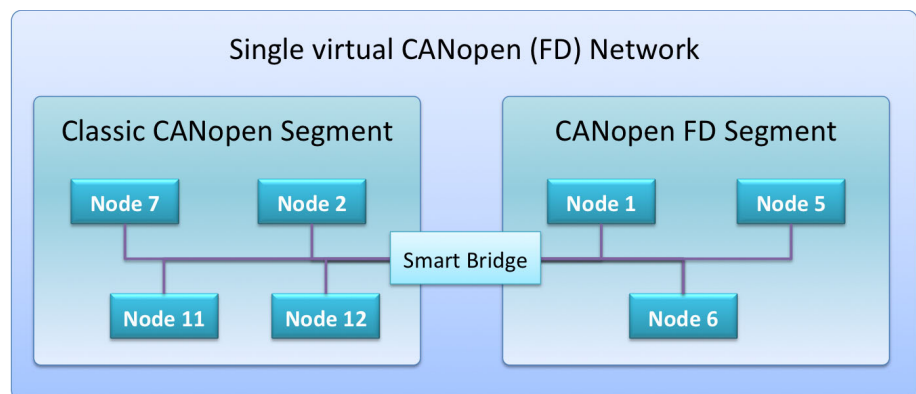

Figure 1: Connecting classic CANopen to CANopen FD using a smart bridge (Source: Emsa)
*Figure 1: The spindle bearing monitor system comprises distance sensors (1), an evaluation unit (2), and the cable with CAN connectivity (3) (Source: Schaeffler)*
*Mix classic CANopen and CANopen FD using a smart bridge:* This third option allows you do both: a step-by-step transition from classic CANopen to CANopen FD or to add legacy devices and networks to a new CANopen FD design. The idea is that you use two network branches in your system: a classic CANopen branch with those devices without CANopen FD support and a CANopen FD branch with the newer devices that already have it. Making sure that all node IDs are unique, the two are connected as segments of a single virtual network, using a smart bridge as illustrated in Figure 1.